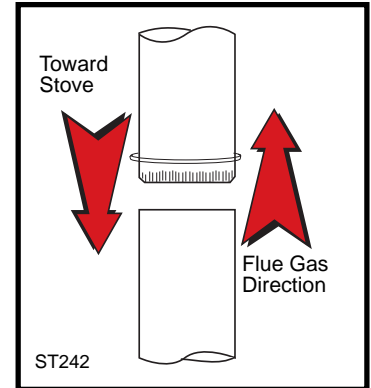

Fig. 4 Chimney connector.
- Begin assembly at the flue collar of the stove. Insert the first crimped end into the stove's flue collar, and keep each crimped end pointing toward the stove. Fig. 4. Use the holes in the flue collar as guides to drill 1/8" (3 mm) holes in the bottom of the first section of chimney connector and secure it to the flue collar with three #10 x 1/2" sheet metal screws. Lift off the griddle, and shield the stove's surface between the griddle opening and the front of the flue collar to protect the finish when you drill the front hole.